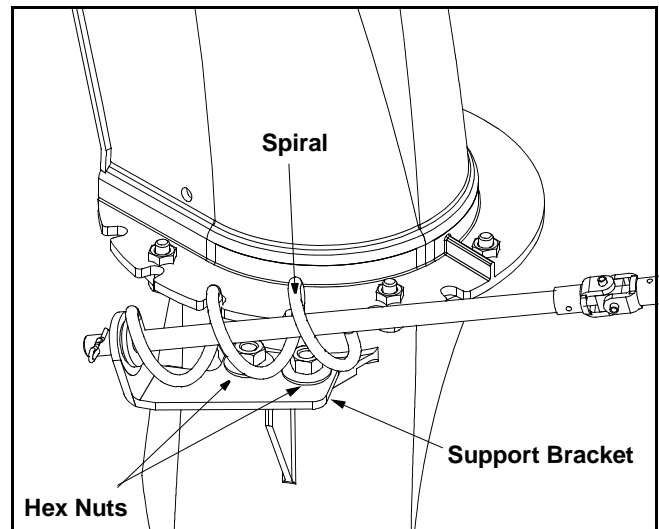

Figure 22
1. Loosen, but do NOT remove the two hex nuts which secure the support bracket to the snow thrower housing. See Figure 22.